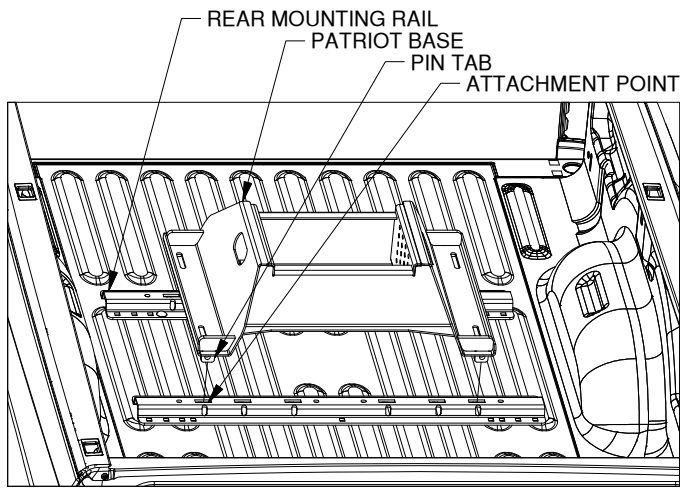

Figure C1: View into truck bed looking towards tailgate.
- 1. Position the forward mounting rail.** For this step the base which will be used in the mounting rails is required. Place a mounting rail into the truck bed in front of the rear mounting rail. Place the base over the rail attachment points and carefully lower it until the pin tabs pass through the attachment points on the rear mounting rail. Attach the forward mounting rail to the forward mounting points on the base. The base should rest flat against the top of the rails, see Figure C1. With the base still attached ensure that the forward rail is centered in the truck bed.